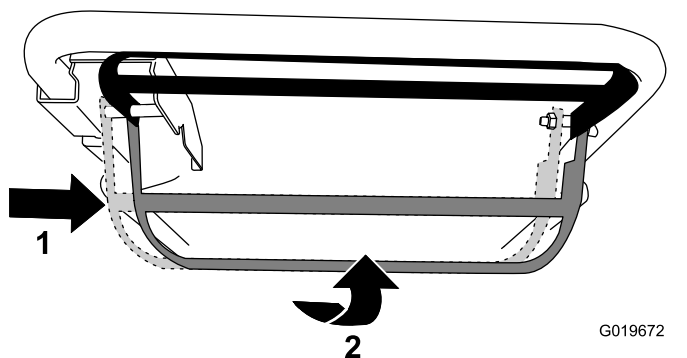

Figure 18
- **To operate the self-propel drive and engage the blade:** Move the blade-control bar all the way to the right and raise it to the handle (Figure 18).